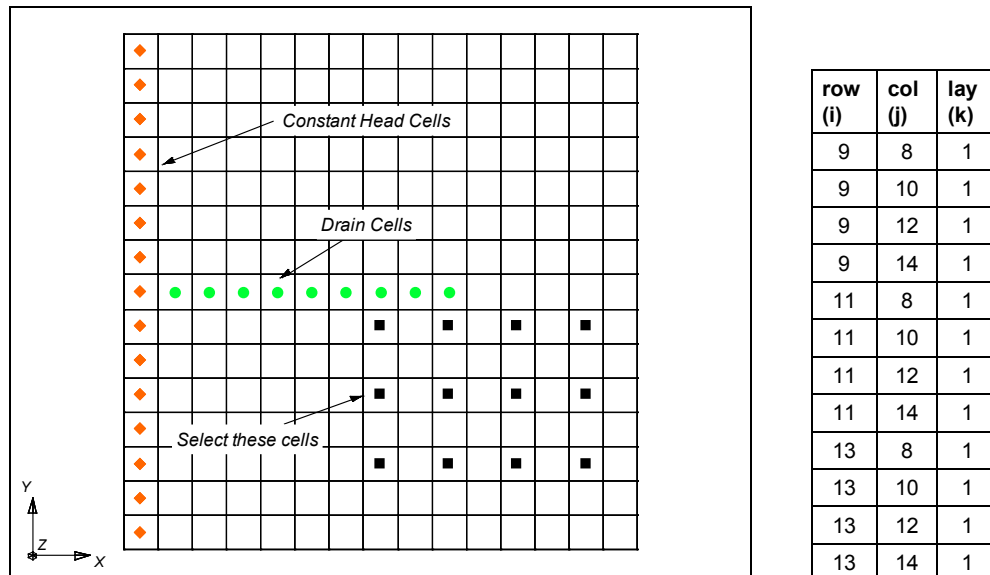

Figure 5. Cells to be selected on top layer.
1. While holding down the *Ctrl* key, select the cells shown in **Figure 5**.